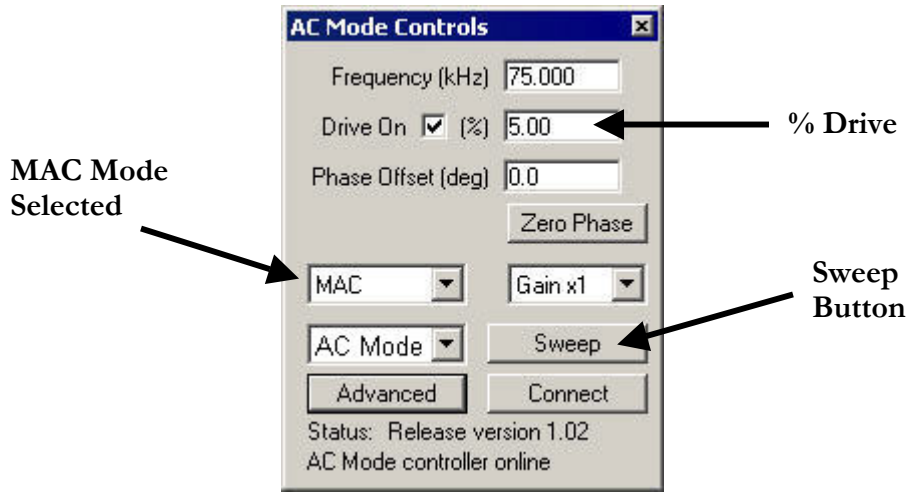

Figure 4.10
- Select **MAC** (as indicated in Figure 4.10 below) to perform a Magnetic AC scan using a MAC tip